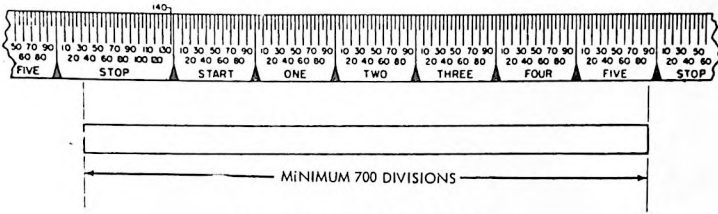

FIGURE 1. CODE READING CONTACT
4.3.2 (a) Requirements (See Figure 1)